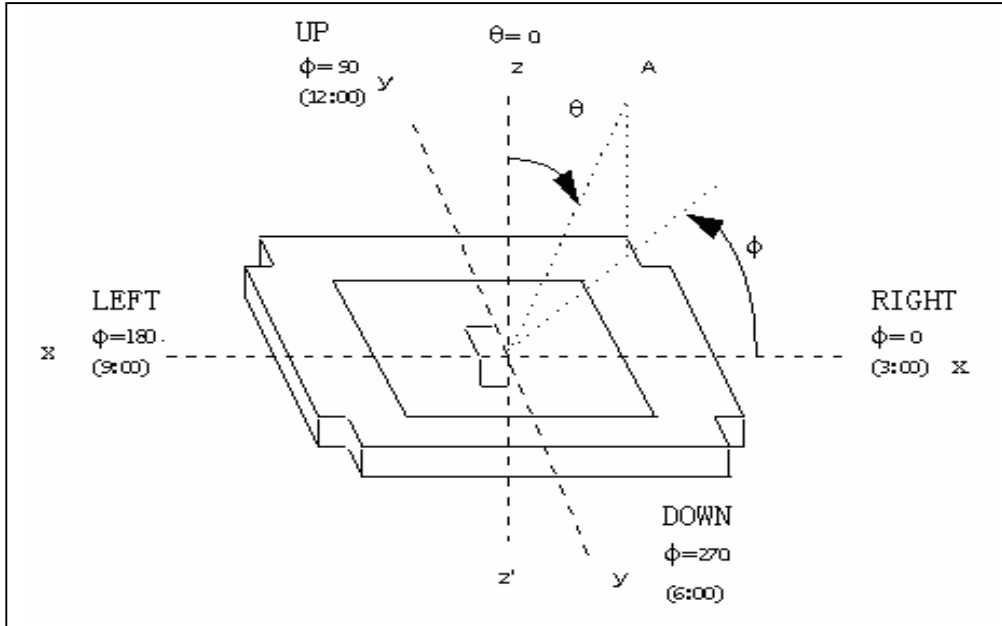

**FIG.2. Measuring method for Contrast ratio, surface luminance, Luminance uniformity, CIE (x, y) chromaticity**
Note 1. Contrast Ratio(CR) is defined mathematically as For more information see FIG 2.:
Note 2. Surface luminance is the LCD surface from the surface with all pixels displaying white. For more information see FIG 2.
Note 3. The uniformity in surface luminance, δ WHITE is determined by measuring luminance at each test position 1 through 5, and then dividing the maximum luminance of 5 points luminance by minimum luminance of 5 points luminance. For more information see FIG 2.